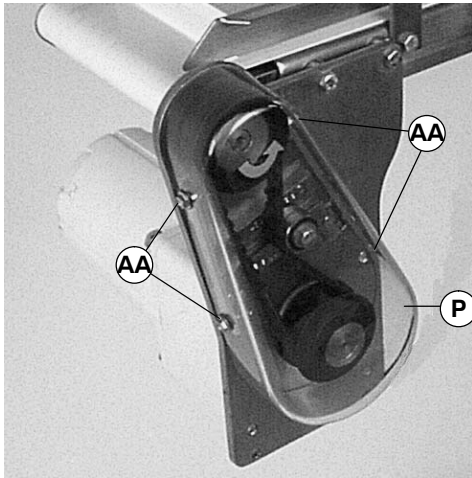

Figure 8
**NOTE: Do not over-tighten screws (AA of Figure 8).**
9. Install cover (P of Figure 8) and tighten four screws (AA) to 35 in-lb (4 Nm).